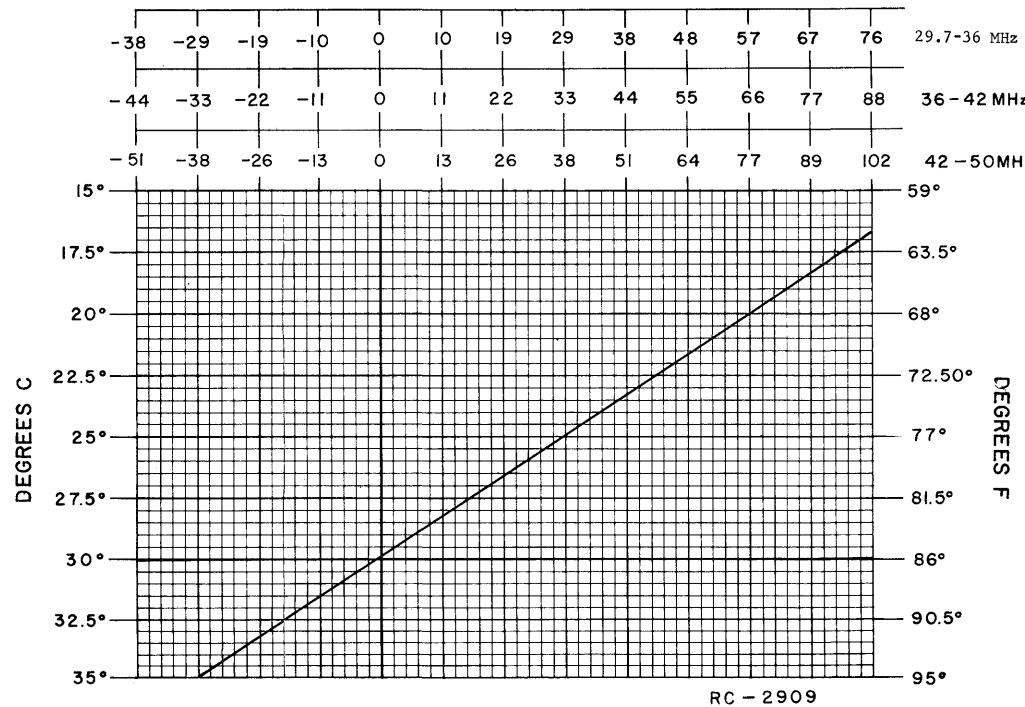

Figure 3 - Frequency Characteristics Vs. Temperature
First, check the frequency to determine if any adjustment is required. (Refer to frequency offset chart, Figure 3). The frequency measurement requires equipment with an absolute accuracy that is 5 to 10 times better than the tolerance to be maintained. When adjusting the frequency, the entire radio should be as near as possible to an ambient temperature of 60°C (86°F).
To set crystal frequency using "beat frequency" method, the temperature should be at 30°C (86°F). If the temperature is not 30°C, then offset the "ON FREQUENCY" signal (at the receiver's input), at a function of actual temperature, by the frequency ERROR FACTOR shown in Figure 3.
- Maintain the radio at 30°C (±5°C, -10°C) and offset the oscillator, as a function of actual temperature, by the frequency error shown in Figure 3.